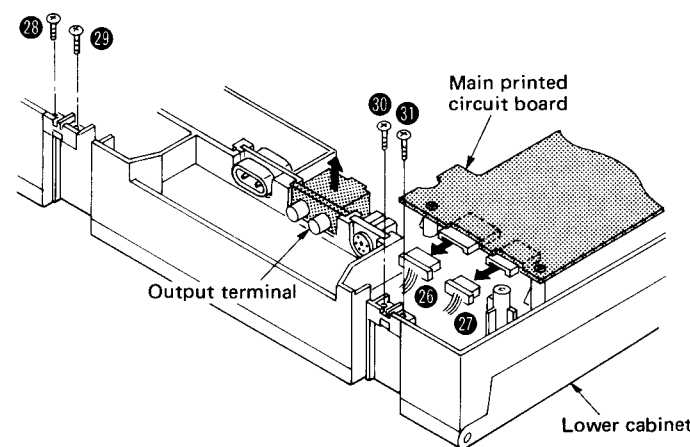

Fig. 7
2. Detach the output terminal from lower cabinet. (Fig. 7)
3. Pull out connectors 26 and 27. (Fig. 7)
4. Remove the 4 setscrews of the hinge. (Fig. 7 : 28 ~ 31)